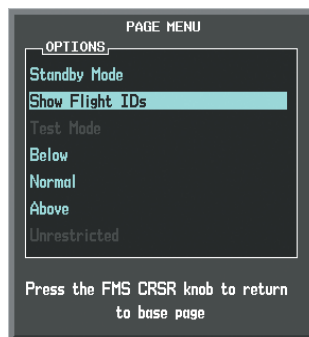

Figure 6-119 Traffic Map Page Menu
- 2) Turn the small **FMS** Knob to select 'Show Flight IDs' or 'Hide Flight IDs' (choice dependent on current state) (Figure 6-119).